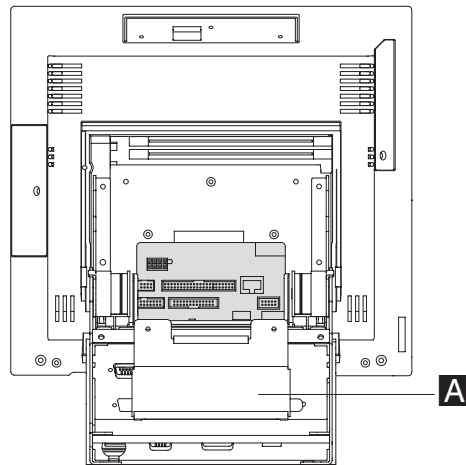

Figure 80. Unplugging the cables from the system board
4. Remove the system-board connector cover **A** as shown in Figure 80.